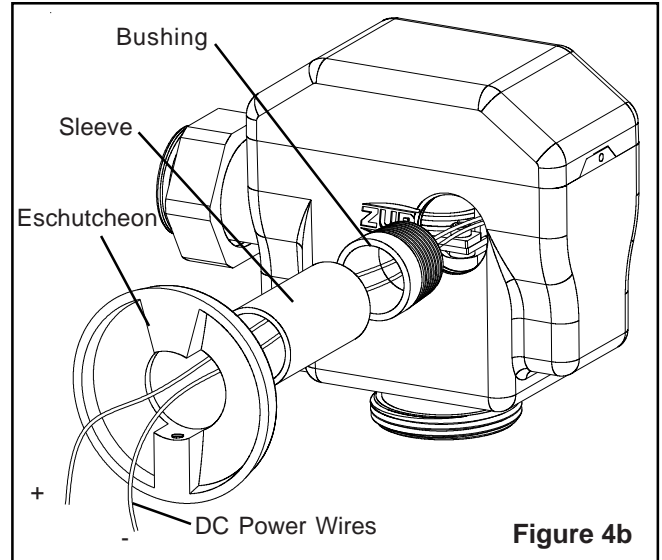

Figure 4b
B. Install the threaded bushing to the rear of the valve. Slip the cover tube and escutcheon onto the bushing (these parts are the same as used for the stop) see Figure 4b.